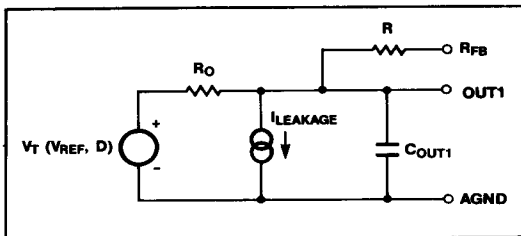

Figure 2. AD7548 Equivalent Analog Output Circuit
Figure 2 shows the equivalent circuits for the AD7548 analog section. The  $I_{LEAKAGE}$  current sources represent junction and surface leakage currents. The equivalent output resistor of the DAC is  $R_o$ , which varies with digital input code from  $0.8R$  to  $2R$  (infinite at zero code), where  $R$  is typically 11k $\Omega$ . Capacitor  $C_{OUT1}$  represents the capacitances of the switches used in the R-2R ladder. When inputs are switched from low to high, the capacitance at OUT1 changes from about 40pF to 100pF. This capacitance is code-dependent and is a function of the number of ON switches that are connected to the output.  $V_T(V_{REF}, D)$  is the equivalent voltage source controlled by  $V_{REF}$  and the digital input code (D).